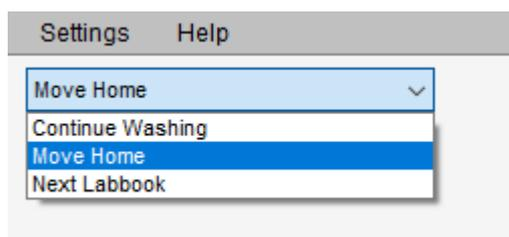

Figure 14-14. Analysis Completed drop-down menu
9. Select **Settings > Post-Analysis**, and select the action after analysis completed from the drop-down menu, see Figure 14-14.